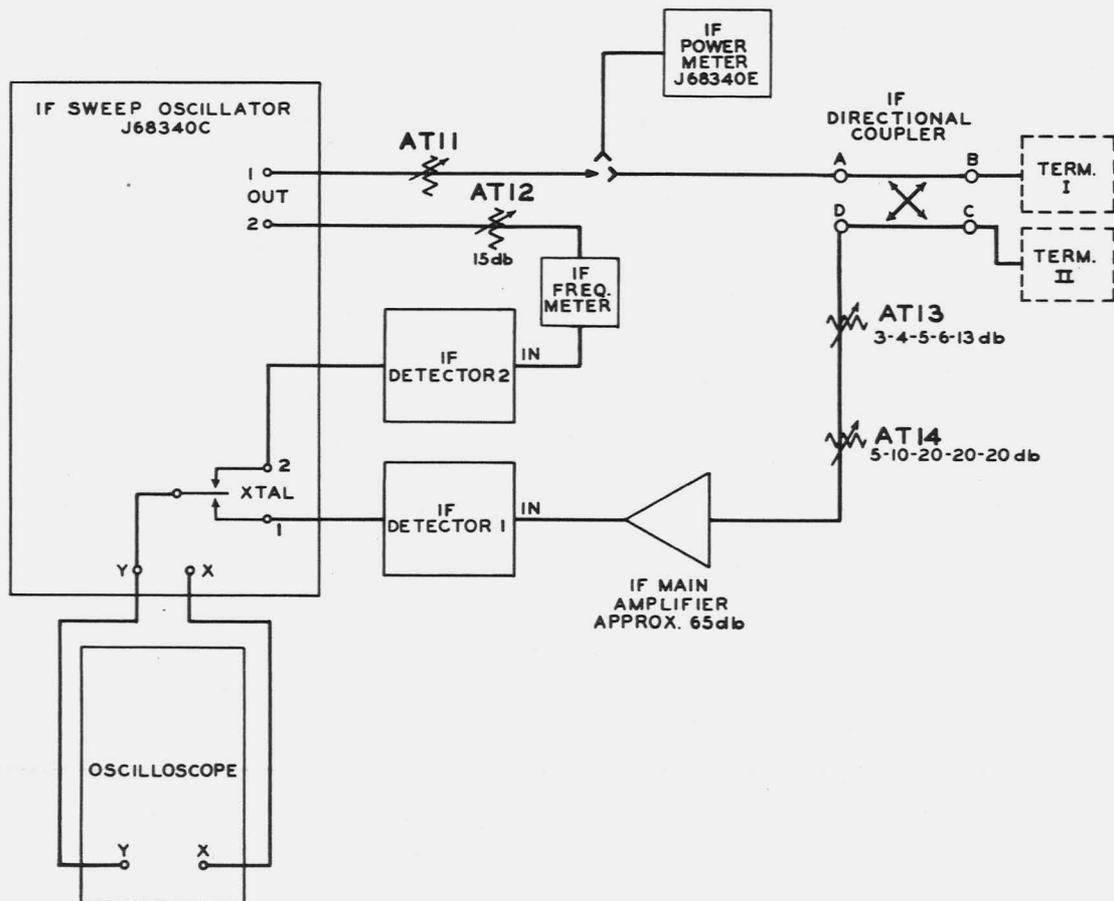

Fig. 12 - IF Impedance Measurement Test Setup
- (1) Connect the test circuit as in Fig. 12. Set AT11 to 13 db.
- (2) Connect a 486A jack to the B connection of the coupler in the position marked TERM I. Omit TERM II.
- (3) Adjust attenuators AT13 and AT14 until the test and reference